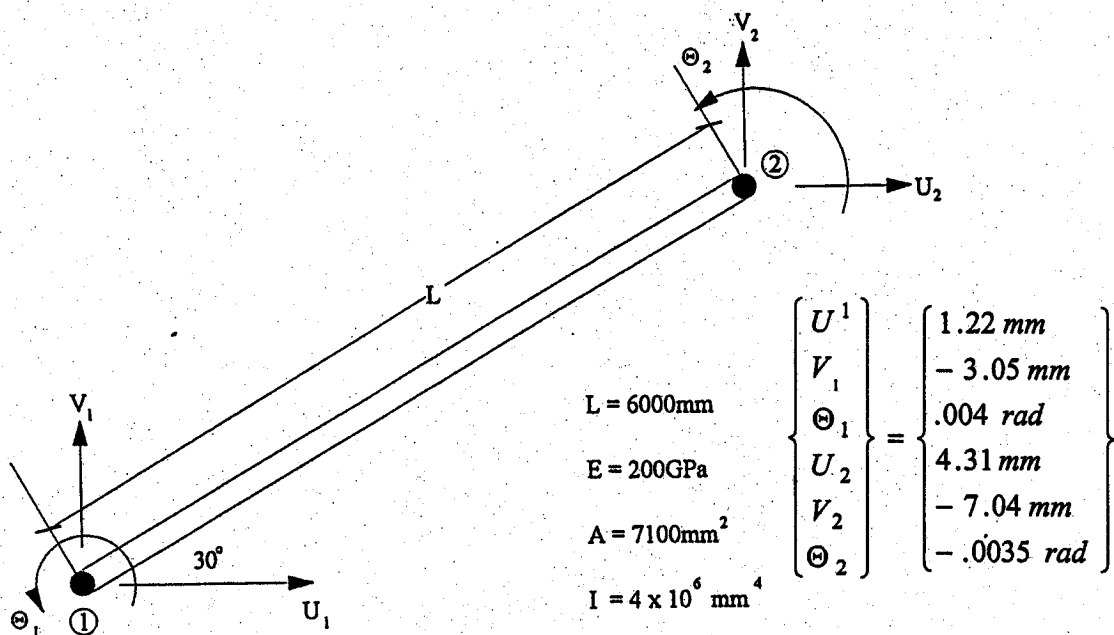

FIGURE 4(b)
- (a) Compute the curvature and bending moment at the midpoint of the single element shown in Figure 4(b) due to the given global deformations. (12)